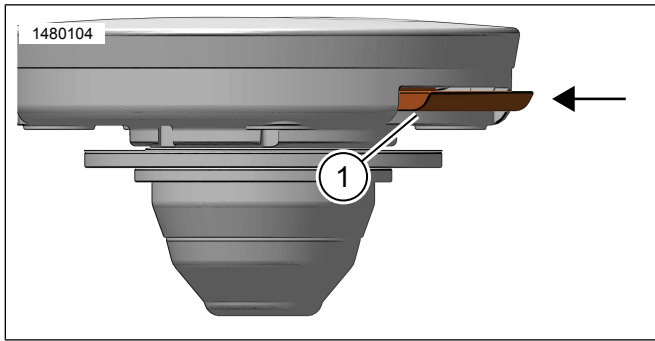

Figure 8. Locking Tab
2. See Figure 8. Use screwdriver or other tool, press in locking tab (1) fully in order to properly seat lock cylinder.